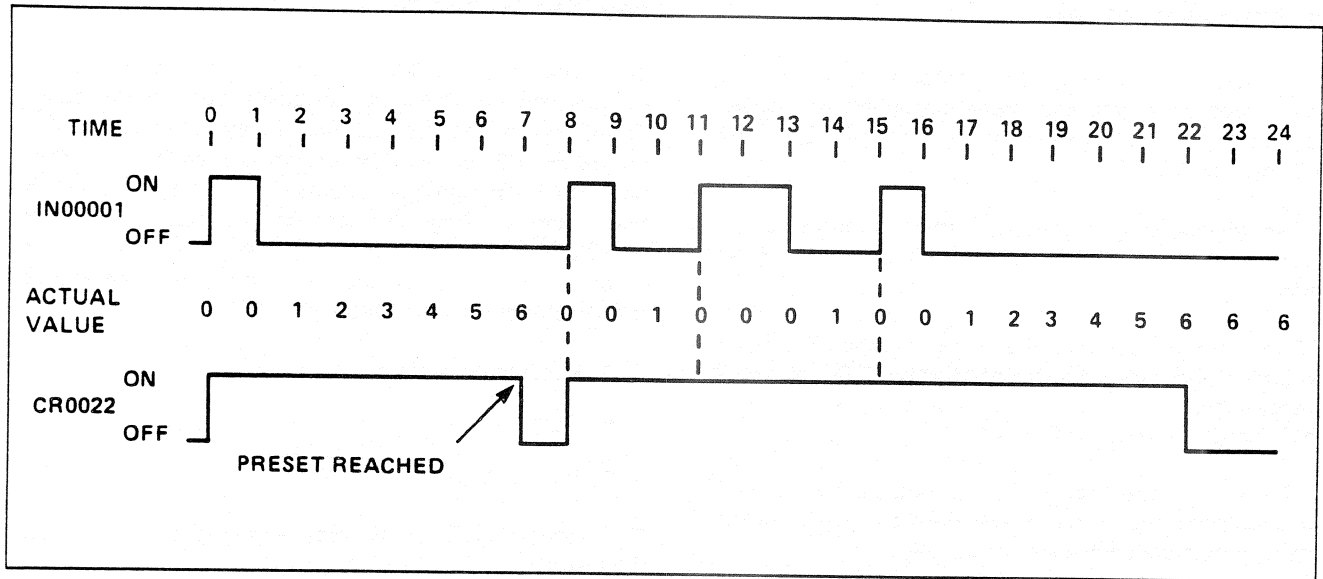

Figure TMR-2. Timing Diagram
1. The value of the Actual Register begins to increment, or time, when the path of the timing enable circuit first stops conducting, as shown in Figure TMR-2. (See times 1 and 9, 13 and 16.)
2. The value of the Actual Register is reset when the conducting path of the timing enable circuit first conducts (goes from off to on). (See times 0, 8, 11 and 15 in Figure TMR-2.)
3. The Q output conducts when the timing enable circuit first conducts (off-to-on transition), as shown in Figure TMR-2. (See times 0 and 8.) The conduction path of Q continues after the timing enable circuit goes false, thereby initiating the timing function. At this point conduction stops when the Actual Value equals the Preset Value. (See times 7 and 22 on Figure TMR-2.)